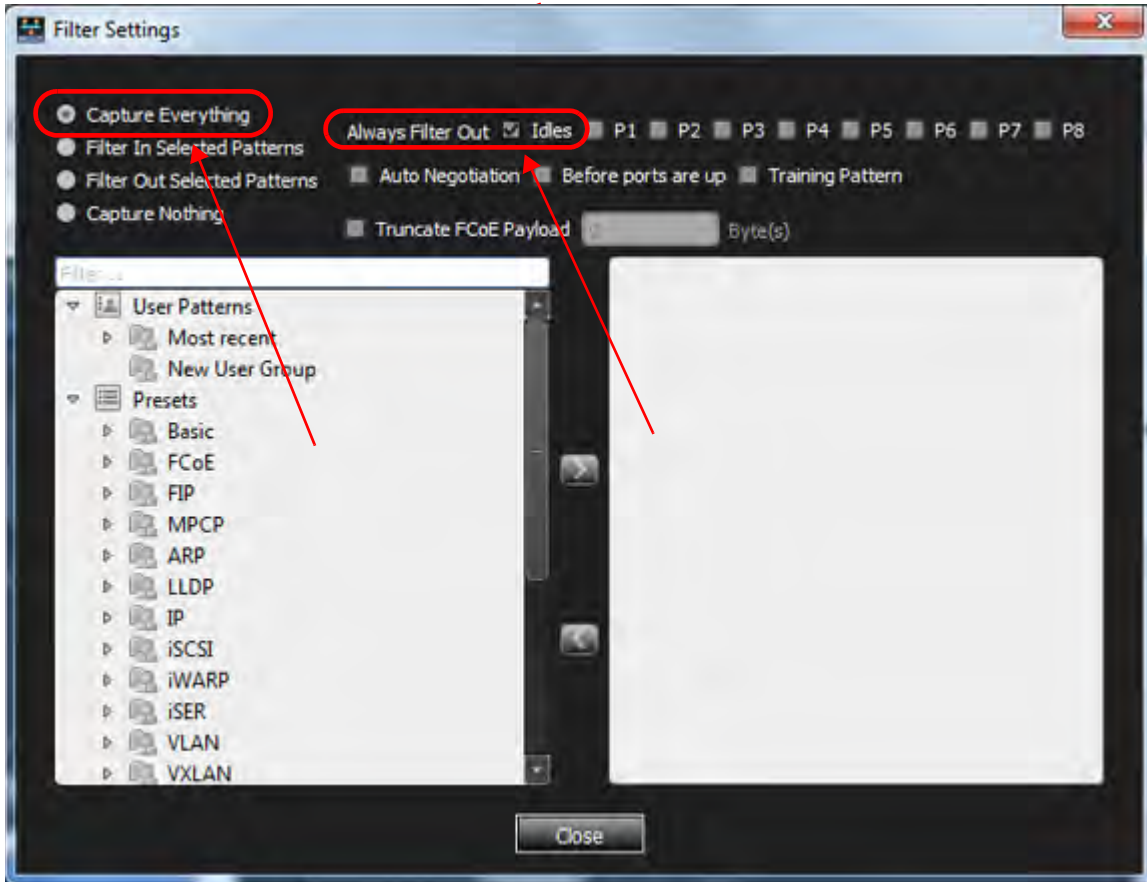

Figure 4.140: Filter Settings Window: Capture Everything, Exclude Idles
- If you choose Capture Everything, you can select options for exclusion. See Figure 4.140.
- ❑ Check the Truncate Payload option to truncate payload after x-number of Dword(s) 0 bytes. (see Figure 4.140).